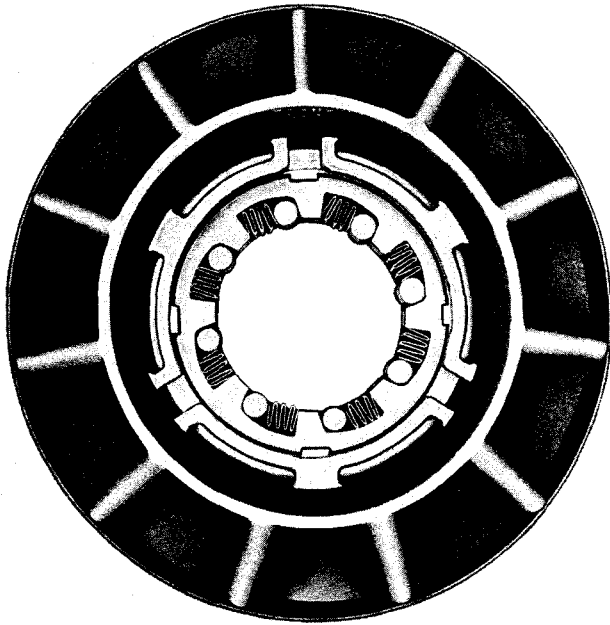

Fig. 6-1. Model TC 240 stator with cam, rollers and springs
(1) If snapring 14 or 60 (A, foldout 3) was removed, install a new snapring. Install one thrust washer 13 or 62 into stator 9 or 61.
(2) Install stator freewheel cam 10 or 63 into stator 9 or 61 from the front side of the stator so that the deep end of the roller pockets are in a counterclockwise direction (fig. 6-1).
(3) Install the stator freewheel rollers and springs into the cam pockets, as shown in figure 6-1.